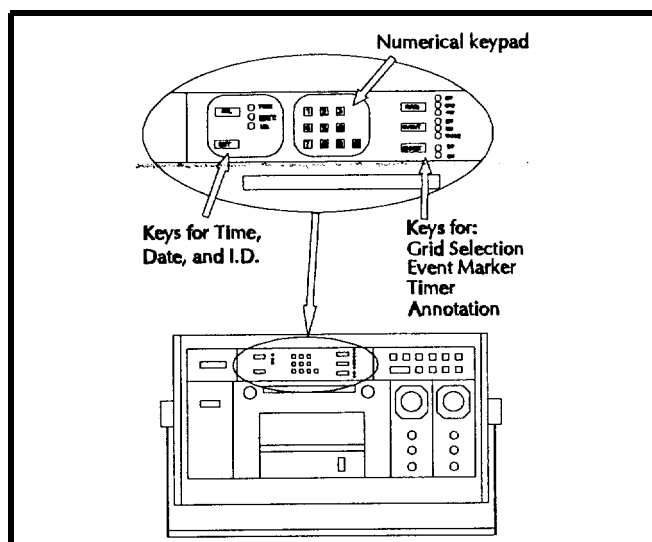

Figure 3
2.2.3 Setup Function Controls - The small panel door located at the top center of the front panel, Figure 3, protects the setup function controls from accidental activation. The setup function controls provide grid selection, event marker display, timing mark display, annotation display, identification (I.D.) message selection, and time/date selection.